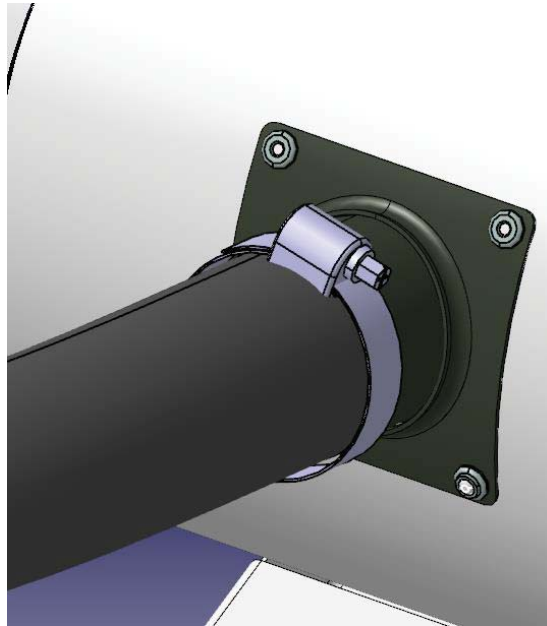

Fig. 3-2
Step 1. Detach tube of heating system from the muffler unscrewing the clamp. (See Fig. 3-2).